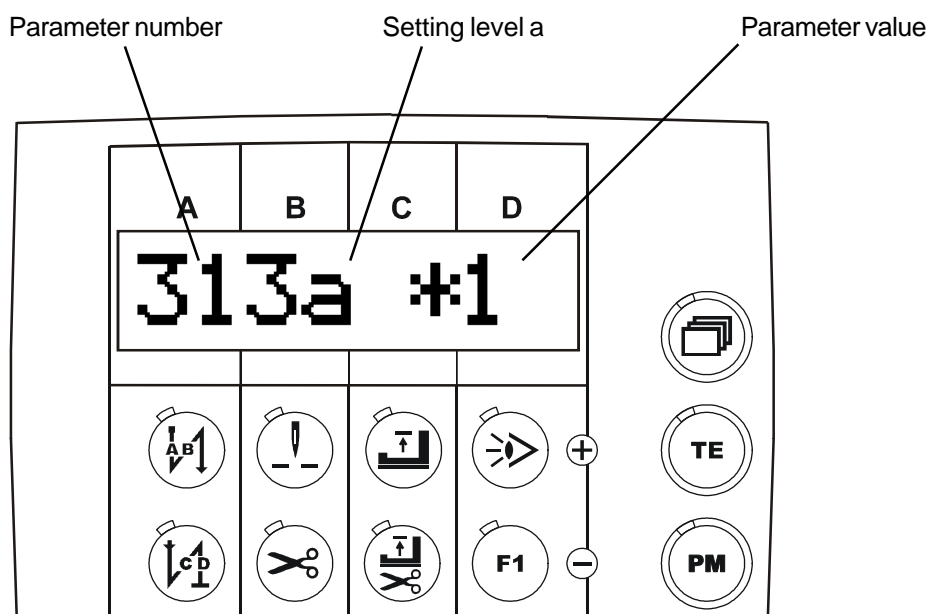

Fig. 8.1
- Press the **paging key** until the **display Fig. 8.1** appears